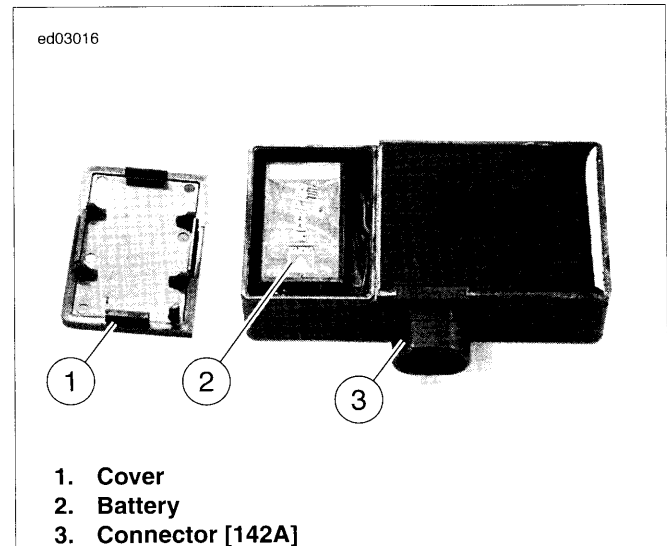
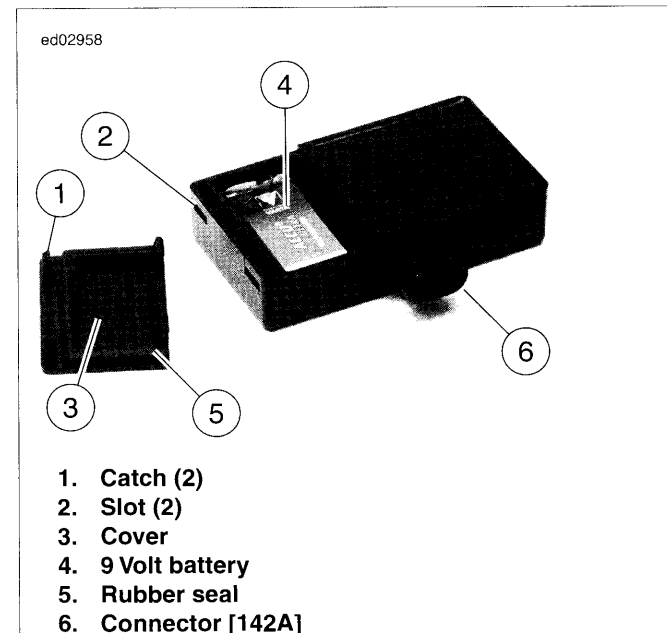

Figure 6-147. Battery Compartment (Early Style Siren)
Figure 6-148. Battery Compartment (Late Style Siren)
- See Figure 6-147 and Figure 6-148. Early style siren works with both TSSM and HFSM. Late style siren only works with HFSM.
2. See Figure 6-147. Remove battery cover.
2. See Figure 6-148. With a small screwdriver or pick, push the catches (1) in through the two slots (2) in the end of the siren to release the battery cover (3).